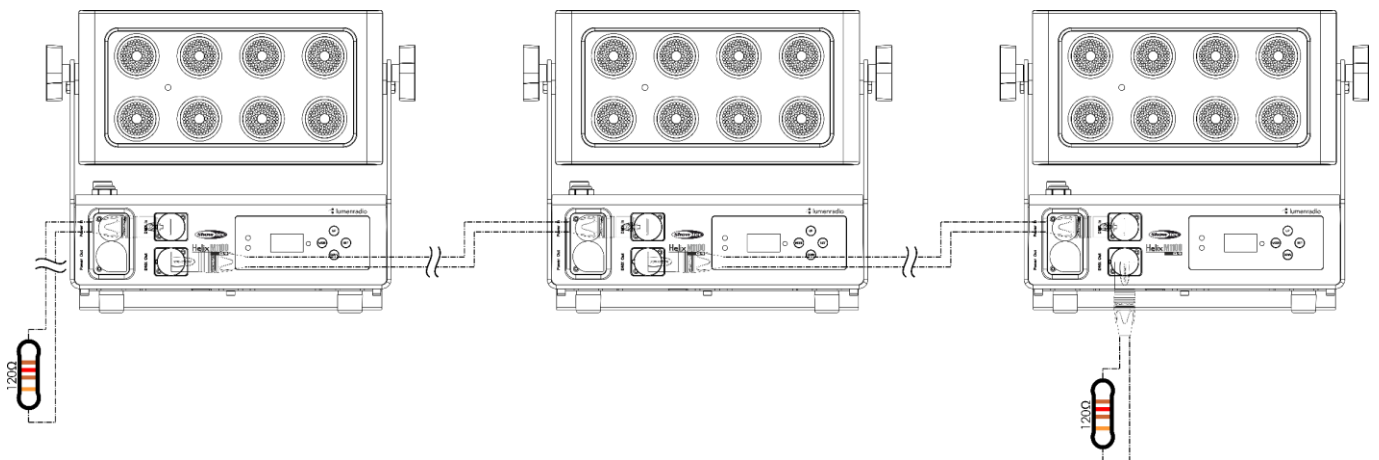

Fig. 17
- 02) Repeat step 1 to connect all devices as shown in Fig. 17.